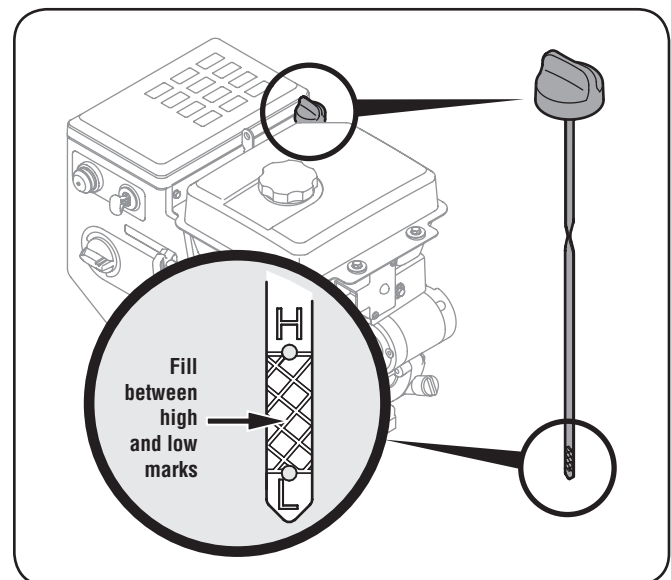
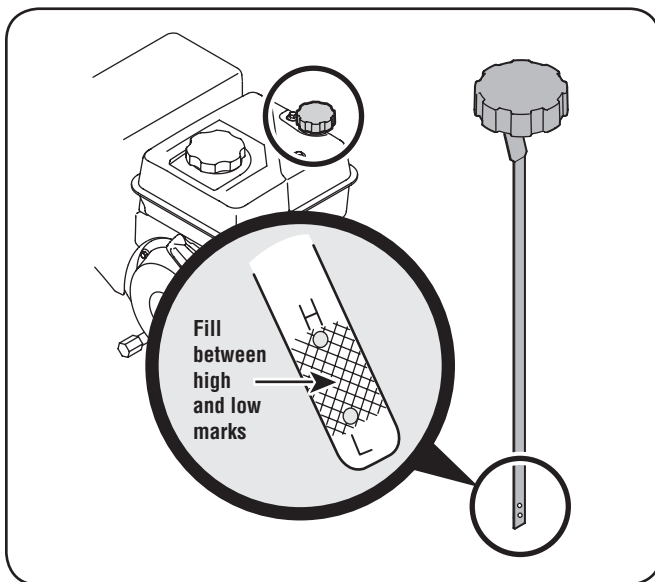

Figure 3-2
Figure 3-3
- Keep oil level between "H" and "L" marks on dipstick. See Figure 3-2.
1. Remove the oil filler cap/dipstick and wipe the dipstick clean. See Figure 3-2.
3. Remove the oil filler cap/dipstick. If the level is low, slowly add oil until oil level registers between high (H) and low (L), Figure 3-2.
- Keep oil level between “H” and “L” marks on dipstick. See Figure 3-3.
1. Remove the oil filler cap/dipstick and wipe the dipstick clean. See Figure 3-3.
3. Remove the oil filler cap/dipstick. If the level is low, slowly add oil until oil level registers between high (H) and low (L), Figure 3-3.
4. Loosen and remove the oil fill cap dipstick from the oil filler tube. Note the oil level, if oil reading on the dipstick is below the “L” mark, slowly add oil to reach the “FULL” level. See Figure 3-2 or Figure 3-3, whichever is applicable.